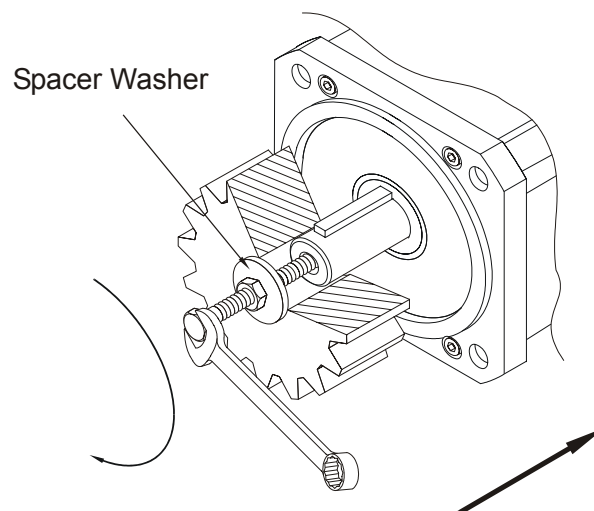

Fig. 1: Example: Fitting a power output element
- For fitting clutches, gear wheels or pulleys, please do by all means only use the specifically designed tightening thread in the motor shaft, see Fig. 1, and warm up the power output elements, if possible.